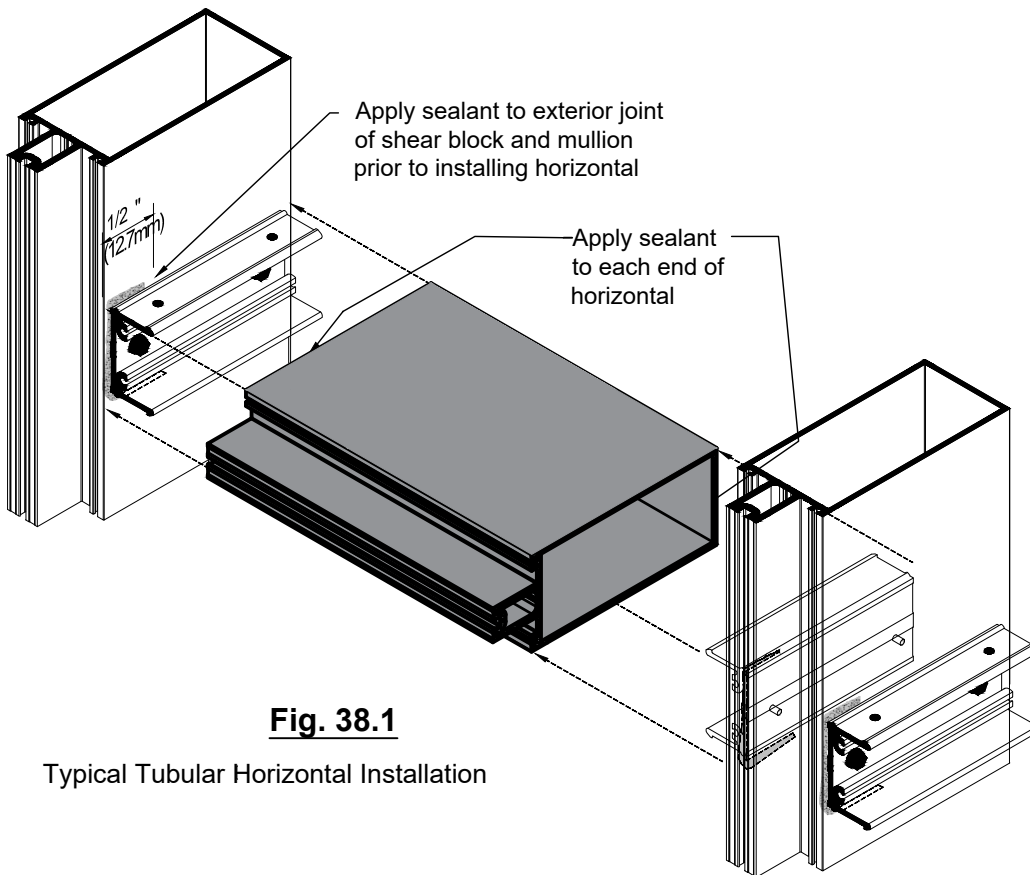

Fig. 38.1
- A. Seal shear block prior to installing the horizontal member. See **Fig. 38.1**.